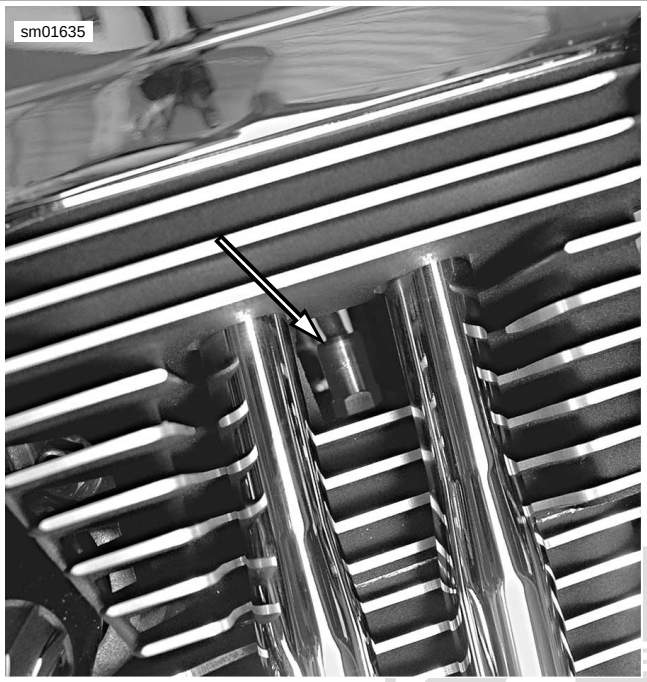

Figure 4-32. Engine Temperature (ET) Sensor Location
See Figure 4-32. The engine temperature (ET) sensor is located in the top of the rear cylinder head.